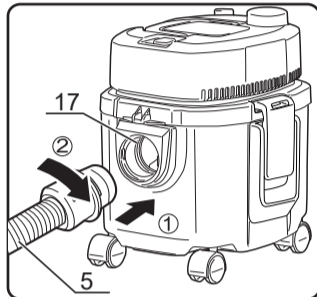

fig.6
- Insert the large end of the hose(5) into the vacuum hose connection(17) and screw it on till tight. (fig.6)